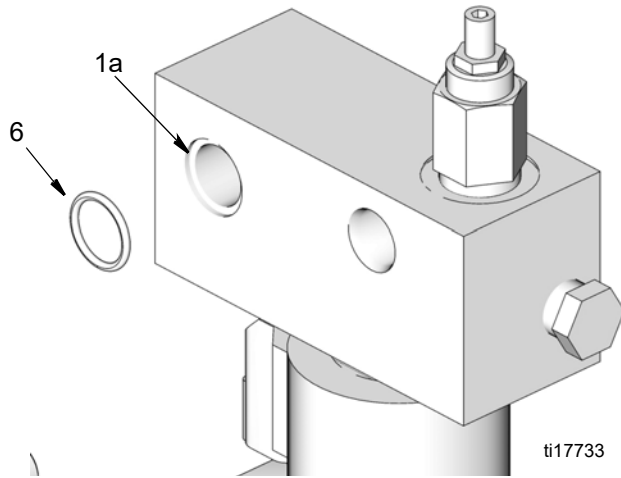

FIG. 4:
- 5. Grease o-ring (6) and install in block opening (1a) as shown in FIG. 4.